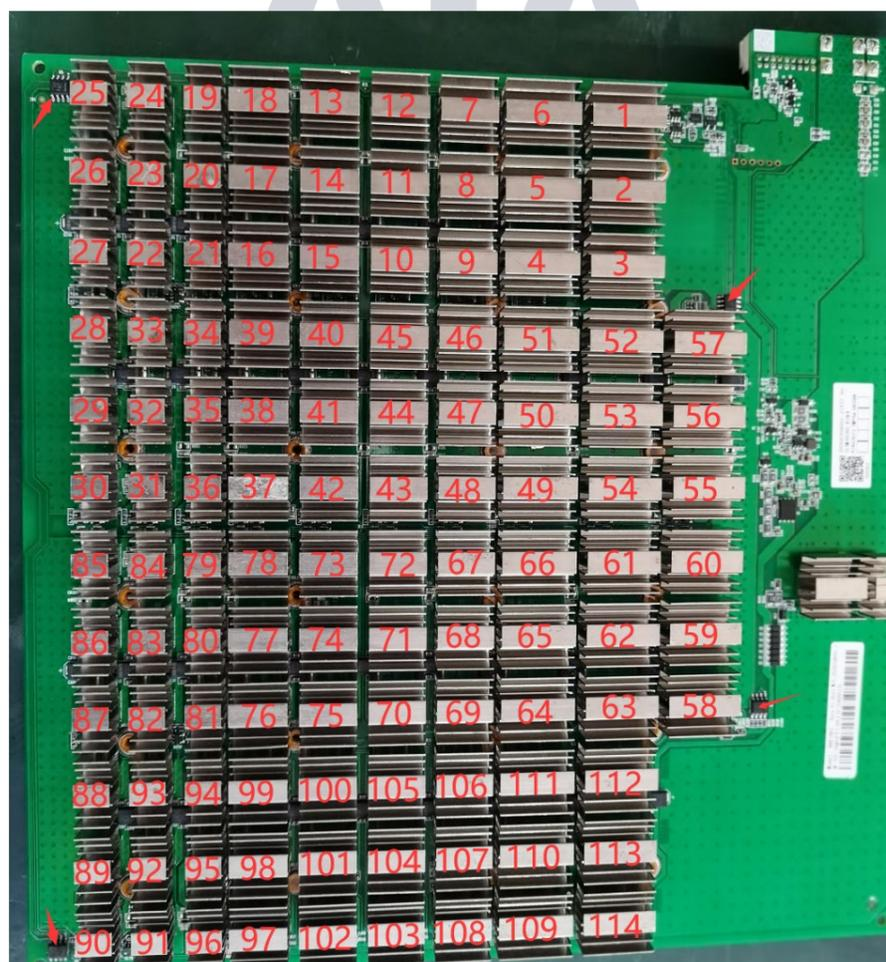

Figure 4-4
B) Check whether the four temperature sensors of U5, R216、R219、R220, U7, R221~R223, U8, R224~R226, U9, R229~R231 and the matching resistance welding are abnormal, the location of the temperature sense is as shown in Figure 4-4 and 5-13, the temperature sensor is all located on the back of the PCB, the resistance is located on the front and back of the PCB, and whether the temperature sensor 3.3V power supply is normal; Check the welding quality of the chip which connects sensor and the small heat sink. The deformation of large heat sink material will cause poor heat dissipation of the chip and affect the temperature difference.